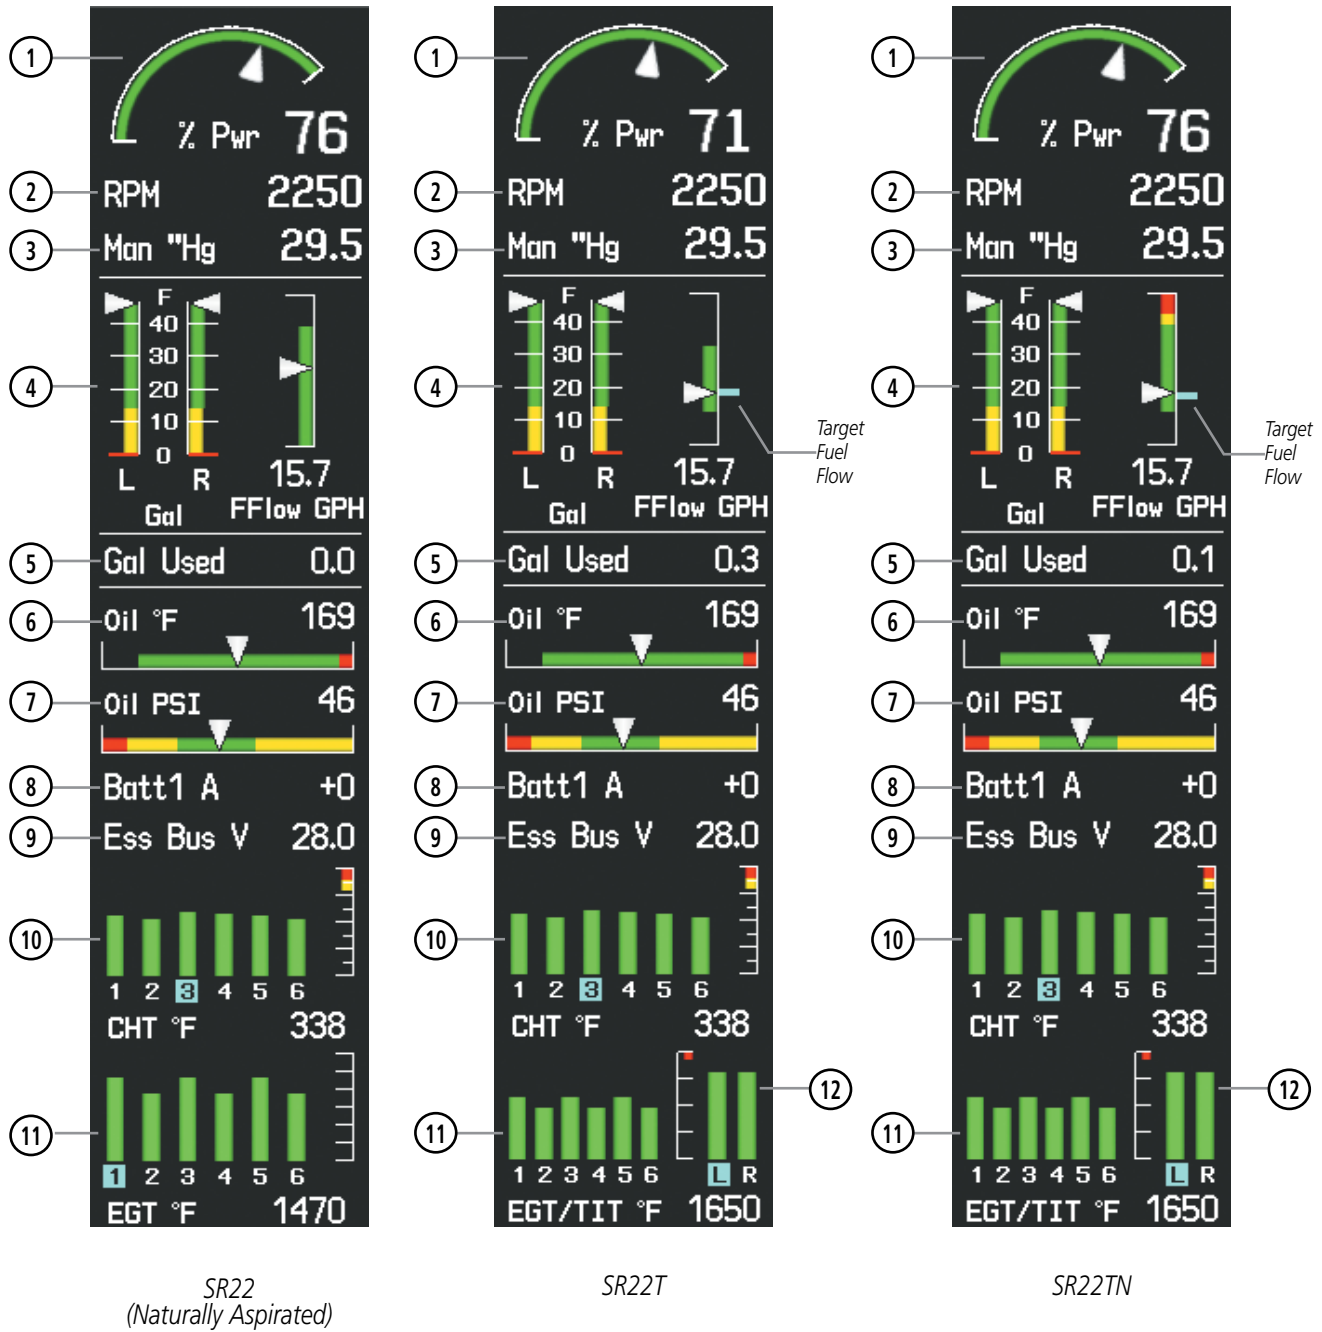

Figure 3-4 EIS Display (SR22)
| ④ | Fuel Quantity Indicator (GAL)&Fuel Flow Indicator (FFlow GPH)   | Displays fuel quantities, in gallons, for the left (L) and right (R) fuel tanks.Displays fuel flow in gallons per hour ( Turbo models only – displays a cyan target fuel flow indicator to the right of the fuel flow indicator strip, shown in Figure 3-4 )                             |
| ⑪ | Exhaust Gas Temperature Indicator (EGT °F)Exhaust Gas Temperature/ Turbine Inlet Temperature Indicator (EGT/TIT °F) | Displays the exhaust gas temperature (cylinder number is shown below bar) ( naturally aspirated models only )Displays the exhaust gas temperature and turbine inlet temperature (cylinder number or turbine inlet side is shown below bar) ( Turbo models only, shown in Figure 3-4 ) |
| ⑫ | Left and Right Turbine Inlet Temperature   | Displays the temperature at the left (L) and right (R) turbine inlet ( Turbo models only, shown in Figure 3-4 )  |